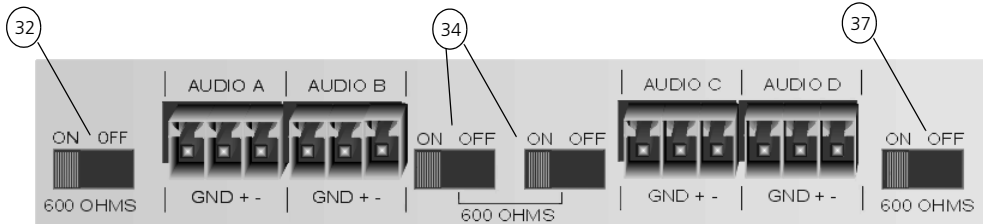

Figure 3-11. Terminator Switch-Audio Port Relationship
Four two-position 600 OHMS audio terminator switches are located on the encoder's rear panel (items 29, 31, and 34 on page 3-3). Each switch is associated with one of the audio channel ports. Figure 3-11 shows the locations of each switch with respect to the audio channel connector it supports.